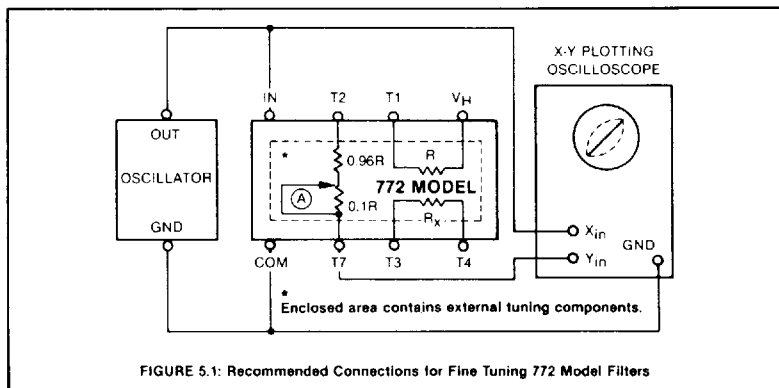

FIGURE 5.1: Recommended Connections for Fine Tuning 772 Model Filters
For applications requiring extremely accurate corner frequency setting, the techniques illustrated in Figures 5.1 and 6.1 enable the user to fine tune the 772 and 774 Model filters, respectively.
TO FINE TUNE A 772 MODEL FILTER: First, calculate the value of fixed-resistor R , and its equal, R_X , in accordance with Eq. 4.1. Then, using the standard 1% resistor value closest to that computed (see Table 4.1), connect 50ppm/°C metal film resistors for R and R_X as in Figure 5.1. Resistor (A) should be a cermet potentiometer, while the series, fixed segment (0.96R) should be a standard 1% film resistor.
Finally, monitoring filter terminals T3 and T6, adjust resistor (C) for a closed, straight-line oscilloscope display. As before, the proportioning between series, fixed and variable resistor segments can be other than that used in Figures 5.1 and 6.1; this weighting has the advantages of ease of calculation and a smooth $\pm 5\%$ range of tuning adjustment.